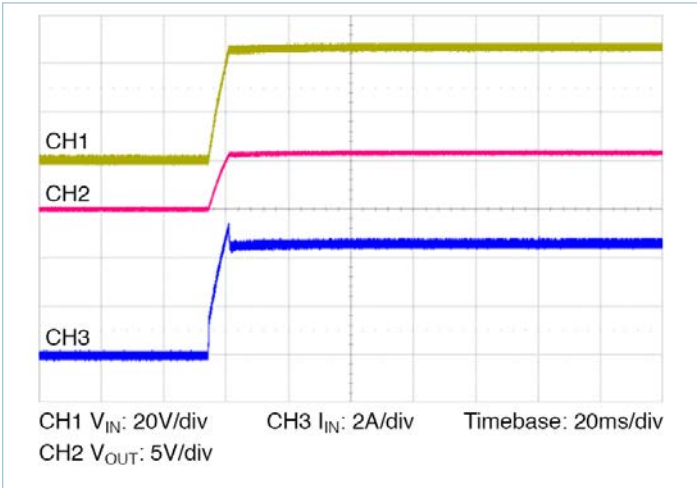

Figure 13 — Start up from application of  $V_{IN}$ ; VC pre-applied  $C_{OUT} = 4000\mu$ F
- Normal operation (VC applied prior to  $V_{IN}$ ): In this case the controller is active prior to ramping the input. When the input voltage is applied, the VTM module output voltage will track the input (See Figure 13). The inrush current is determined by the input voltage rate of rise and output capacitance. If the VC voltage is removed prior to the input reaching 26V, the VTM may shut down.